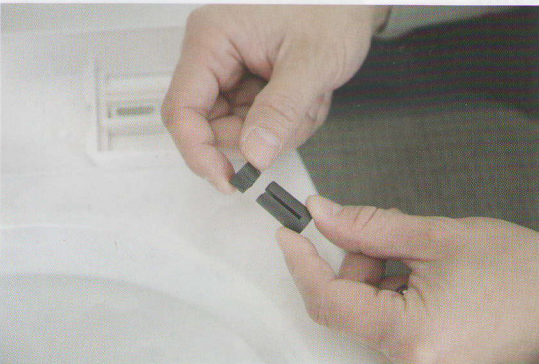

Fig. 8
9) Put Plastic Bolt Caps into the Fasteners (Fig.8)
9) Put Plastic Bolt Caps into the Fasteners (Fig. 8)